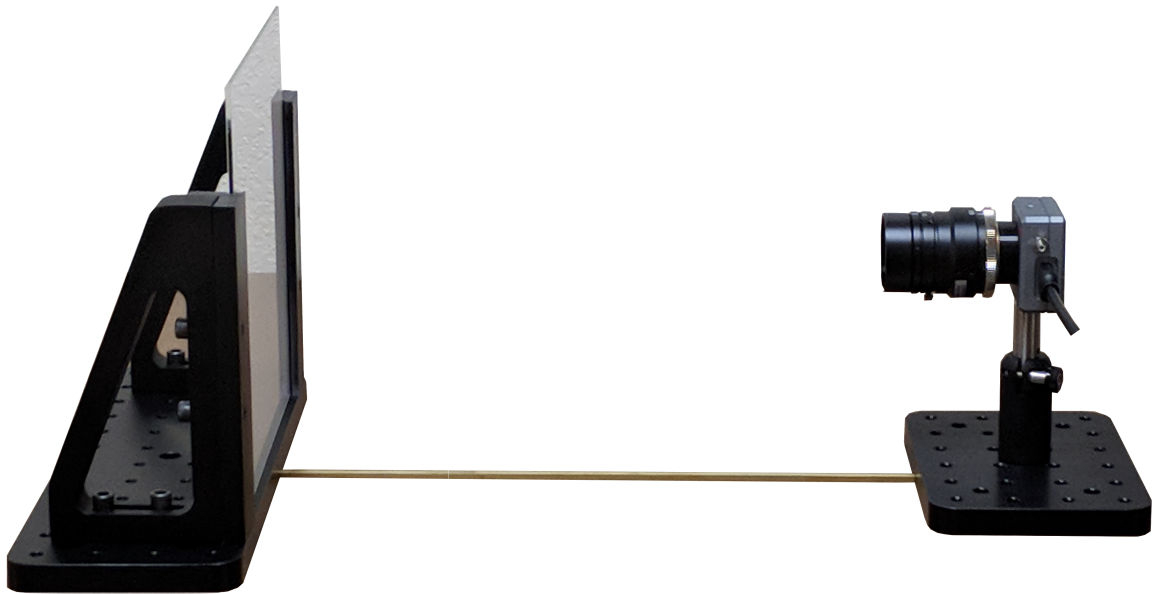

Figure 2: The camera is pre-calibrated for the setup shown above. If a different object distance is used, the PMF must be recalibrated (See Appendix A)
3. Position the camera system in accordance with Figure 2 and the included assembly instructions. The camera system should be pointing toward the center of the diffusing plate, normal to the surface.